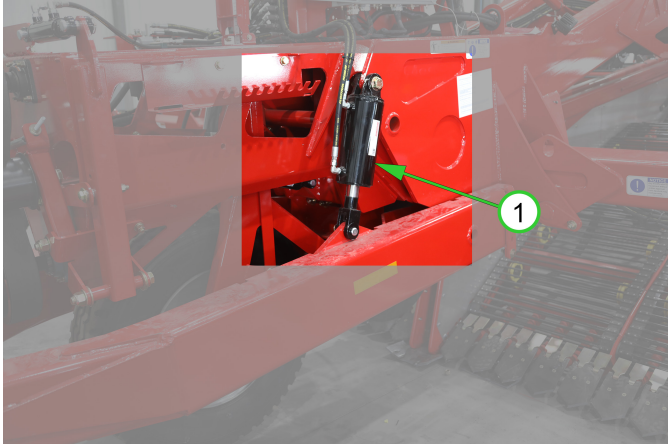

Figure 32
1. Using *LAYER 3* rocker switch 1 (*Ridge Relief*), increment the Ridge Relief value one digit at a time until the (1) drawbar cylinder extends. (See Figure 32)